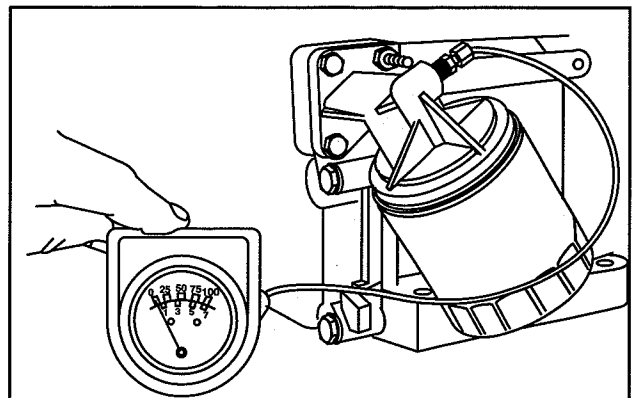

Fig. 7 – Checking Oil Pressure
3. Install oil pressure gauge, Fig. 7.